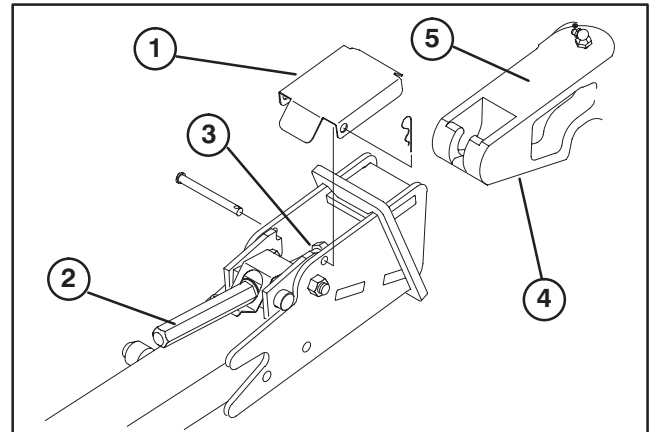

Figure 21
3. Adjust lift arms heights making sure that the machined surface on top of each traction unit lift arm is parallel to ground (Fig. 21). (Raise or lower lift arm casting by pushing up or down from behind the front tires or using wrench in front of tractor)